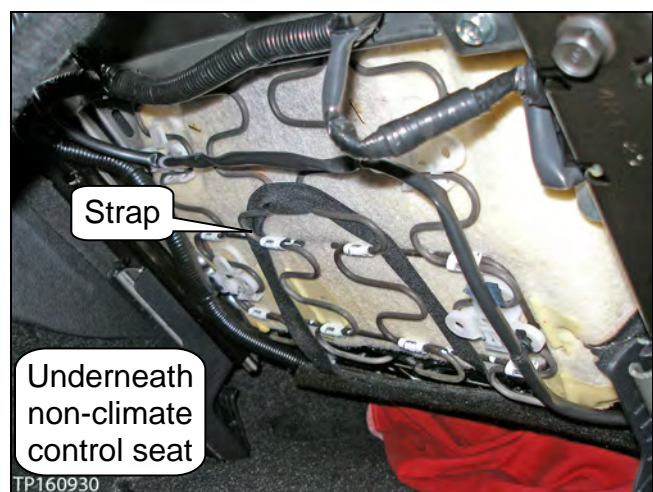

Figure 7
- The seat is unbolted in Figure 7, only to show where the elastic strap is fastened.
- Figure 7 shows a typical non-climate controlled seat. Your vehicle's seat configuration may differ slightly.